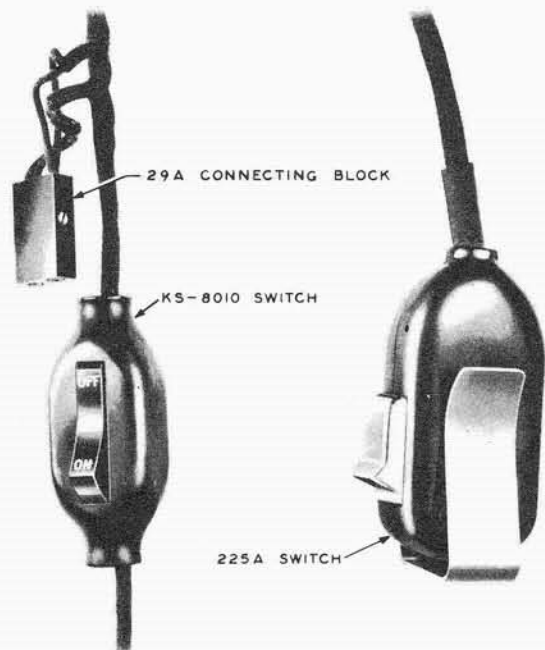

Fig. 13 — 29A Connecting Block, KS-8010 Switch, and 225A Micro Switch
11.00 CONNECTING BLOCK AND SWITCHES (See Fig. 13)